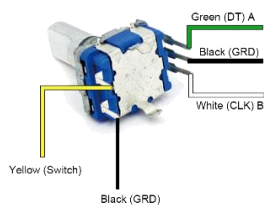

Figure 2c
Refer to figure 2c and solder the green wire to the DT (A) pin, two black wires to both grounds, the white wire to the CLK (B) pin, and finally the yellow wire to the switch pin.